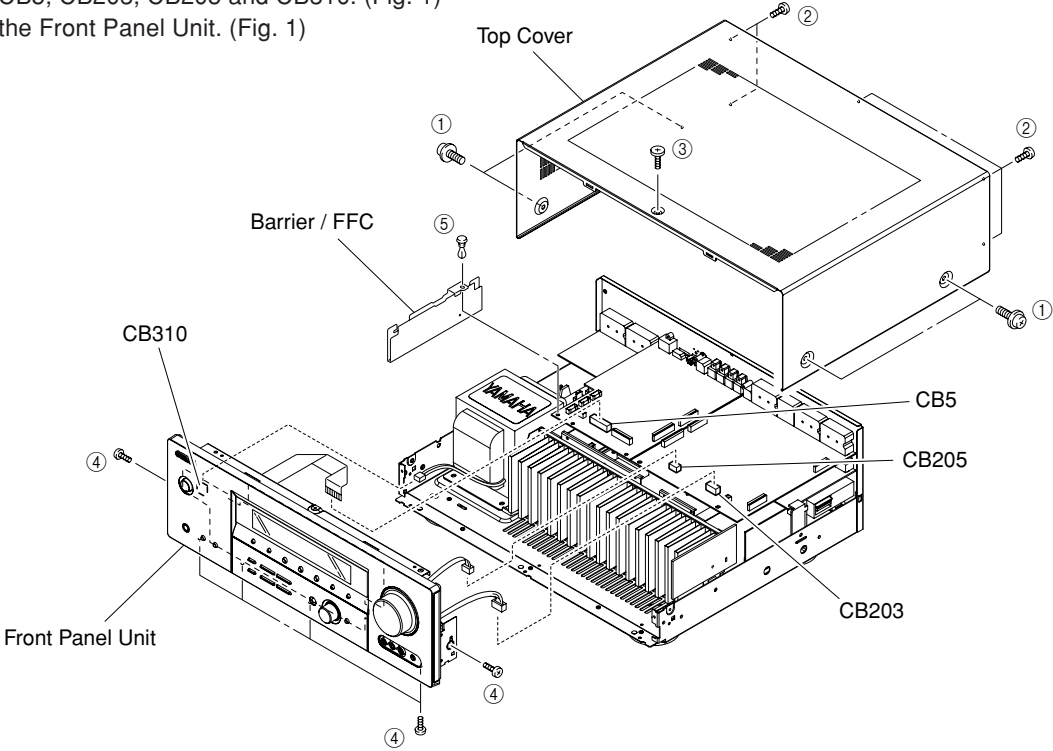
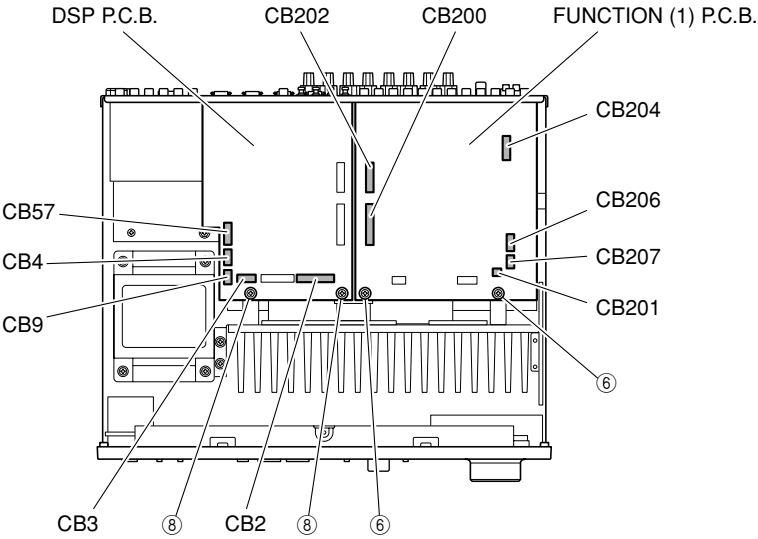

Fig. 1
Fig. 2
- Remove 4 screws (①), 5 screws (②) and 1 screw (③). (Fig. 1)
- Slide the Top Cover rearward to remove it. (Fig. 1)
- Remove 6 screws (④). (Fig. 1)
- Remove a push rivet (⑤). (Fig. 1)
- Remove the Barrier/FFC. (Fig. 1)
- Remove CB5, CB203, CB205 and CB310. (Fig. 1)
- Remove the Front Panel Unit. (Fig. 1)
3. Removal of FUNCTION (1) P.C.B.
- Remove 2 screws (⑥). (Fig. 2)
- Remove CB200-202, CB204, CB206 and CB207. (Fig. 2)
- Remove the FUNCTION (1) P.C.B.. (Fig. 2)
- a. Remove 2 screws (8). (Fig. 2)
- c. Remove CB2-4, CB9 and CB57. (Fig. 2)
- d. Remove the DSP P.C.B.. (Fig. 2)